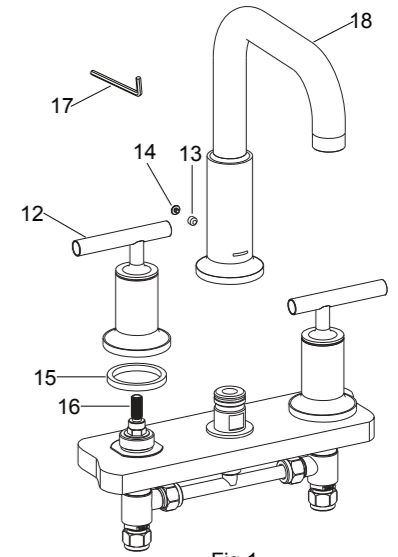

Fig.1
- 1.) Install the foam washers(15) to the bottom of the handle kits(12). Press the handle kits(12) onto the valve stems(16) and tighten them until they contact the deck as shown in Fig.1.